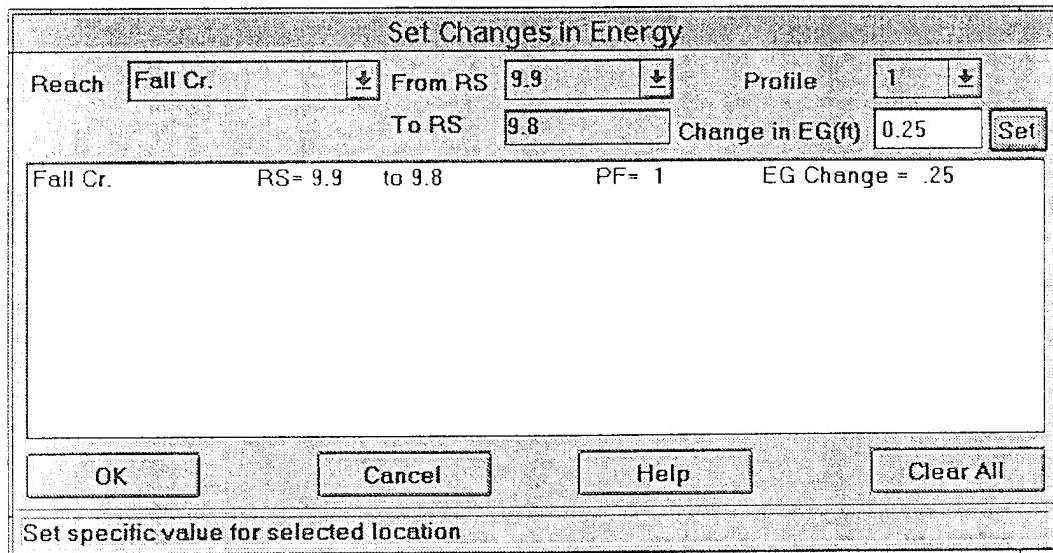

Figure 7.3 Setting a Change in Energy Between Two Cross Sections
**Specify Change in Energy.** This option allows the user to force a specific change in energy between any two cross sections in the model. The change in energy can be set for a specific profile in a multiple profile model. As shown in Figure 7.3, the user first selects a the river reach. Then the from river station (from RS) and to river station (to RS) within the reach for which the energy loss will be applied. Next, the user selects the profile number and enters the change in energy. The final step is to press the “set” button to add the change in energy to the table. The user can set several changes in energy within the model, for various profiles. During the computations, the program will use the specified change in energy between two section, and then compute a water surface for that energy at the upstream section.